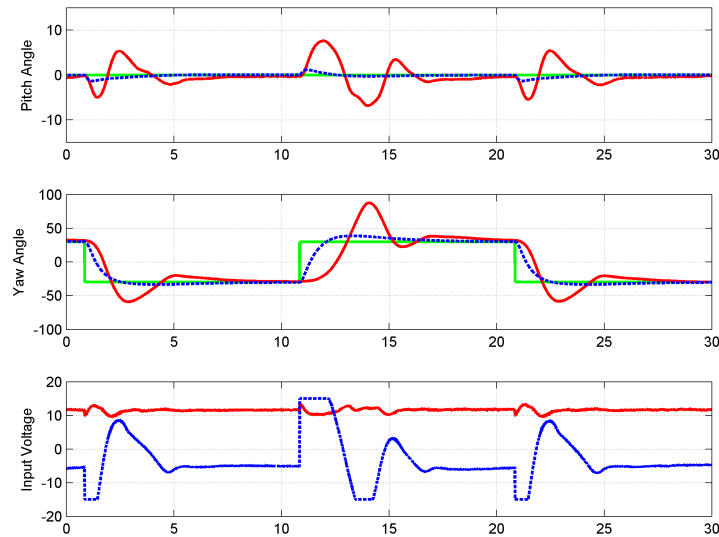

Figure 5.23: Closed-loop LQR+I response under yaw reference step
20. Set the *Amplitude: Pitch (deg)* to 0 and *Amplitude: Yaw (deg)* to 30.0 observe the LQR+I response under a desired yaw step. The obtained response should be similar to Figure 5.23. There is no steady-state error but the controller saturates the yaw amplifier due to the large step reference.